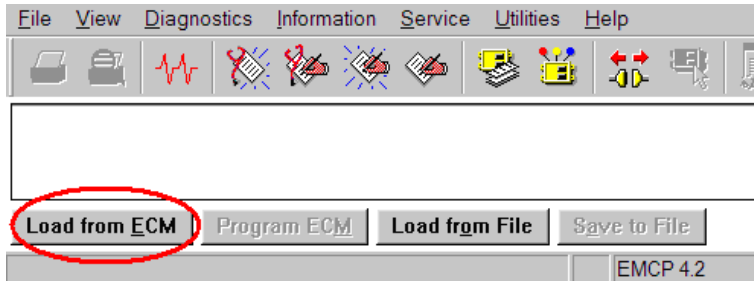

Figure 15.2 – Load from ECM
4. Click “Load from ECM” from the bottom left of the ECM Replacement screen to upload the setpoints. See Figure 15.2.